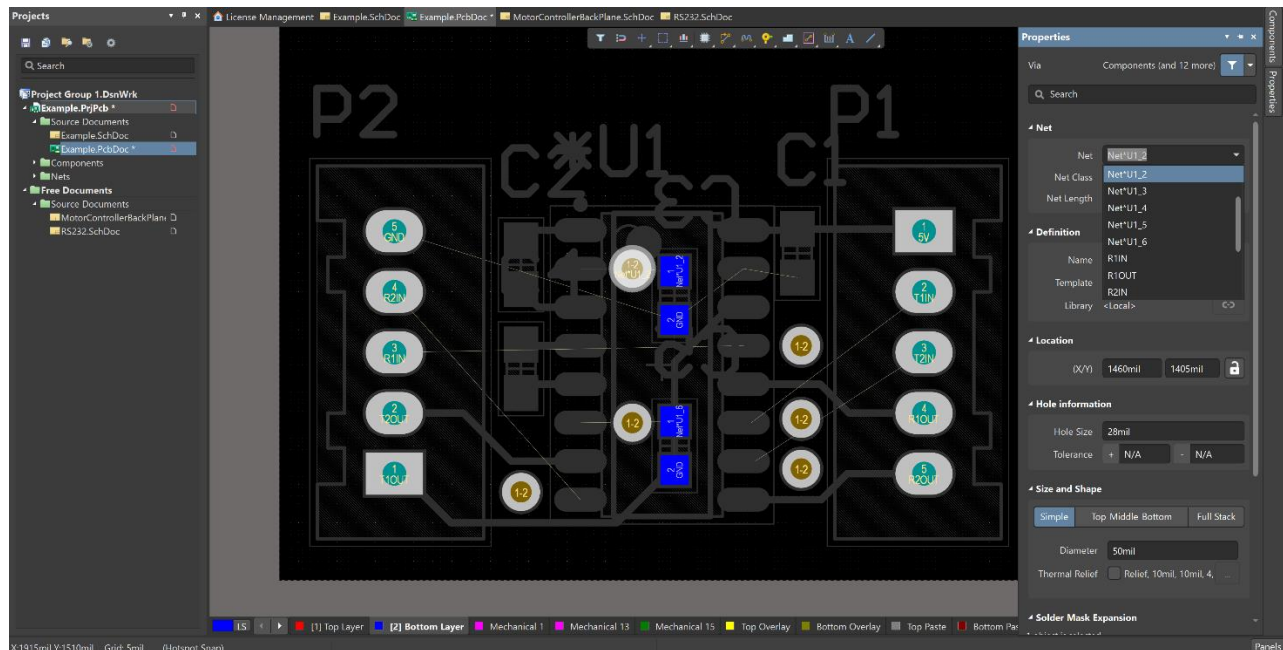

Figure 16: Properties Panel of Via to Select Node
28. Select the node that is closest to your via, if confused refer to Figure 16.